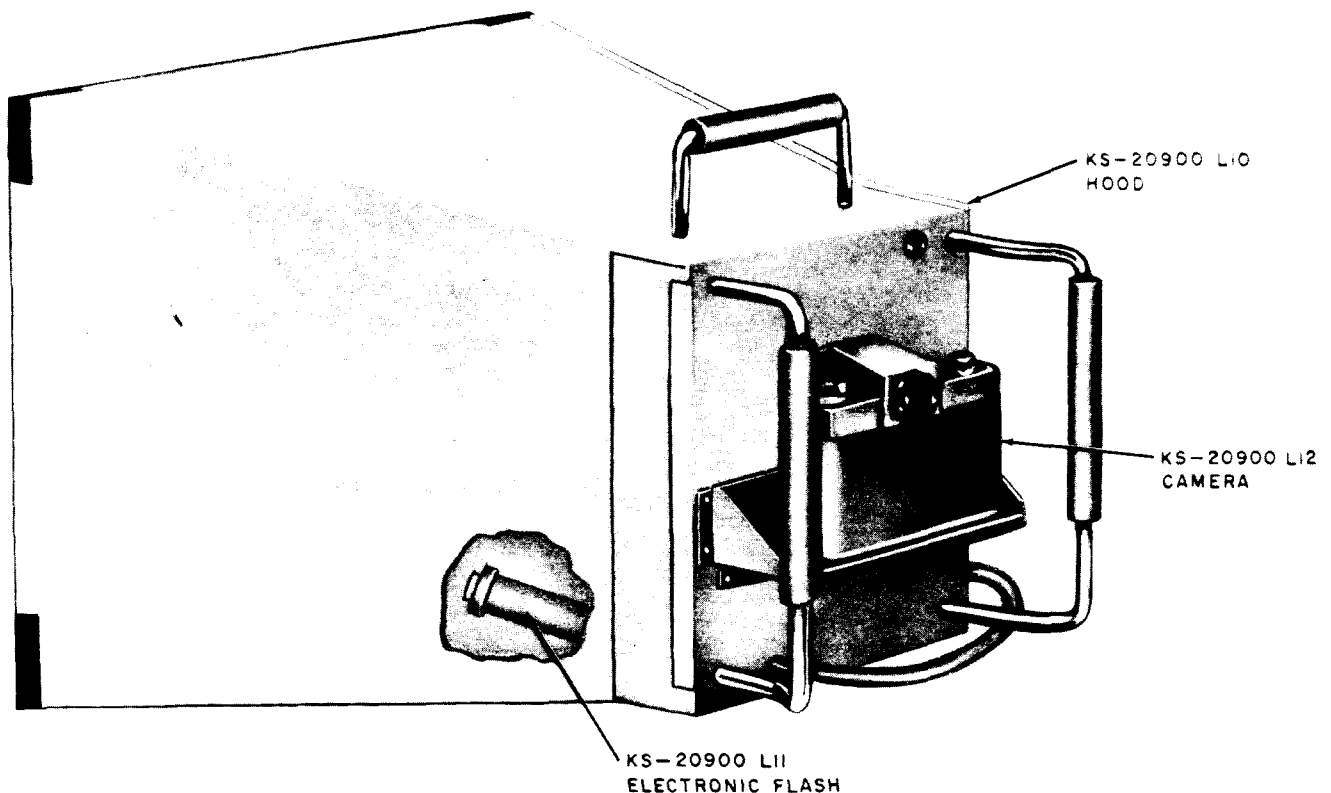

Fig. 1—KS-20900 L1 Message Register Camera
1.02 The KS-20900 L1 message register camera (Fig. 1) consists of a KS-20900 L10 hood fitted with a KS-20900 L11 electronic flash and a KS-20900 L12 camera equipped with a KS-20900 L14 wide angle lens. The KS-20900 L1 camera is approximately 16-1/2 inches wide, 13 inches high, 21 inches deep, and weighs approximately 9 pounds.
1.06 The KS-20900 L10 hood (Fig. 1) is equipped with a handgrip on each side and one at the top. The side grips enable the operator to hold the camera from the rear, and the top grip is used to hold the camera from the side when limited aisle space does not permit the operator to stand behind the camera. The hood is approximately 16-1/2 inches wide, 13 inches high, and 21 inches deep.
place near where it will be used. Remove the camera from the camera box in the bottom of the carrying case. Position the camera on the camera shelf, forward, against the two camera stops (Fig. 1). Secure the camera to the shelf with the camera hold down screw located in the bottom of the camera body.
3.06 Insert the plug of the power cord into the proper 115-volt ac receptacle. A red neon lamp located on the electronic flash will light when the power is on and the camera is ready for successive pictures. The red lamp may be viewed through the "peep hole" (Fig. 1) of the hood.